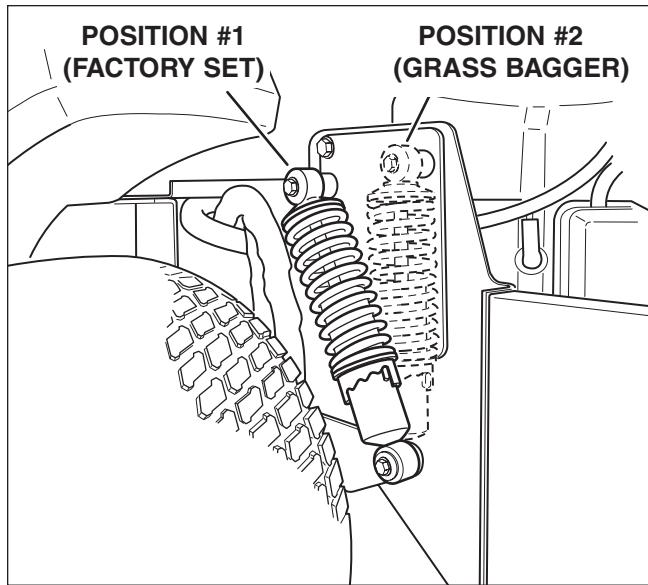

Figure 1. Rear Suspension Adjustments
The upper mounting position #2 (See Figure 1) should be used when a rear-mount grass bagger system is installed.
- Remove the upper shock mounting hardware and pivot the shock to the position #2 (see Figure 1). Adjust the jack to align the shock mounts to the shocks.
- See Figure 1. Using the supplied spanner wrench (p/n 5022853), insert the tip of the wrench into the notch in the pre-load adjuster. While holding the wrench in place with one hand, turn COUNTER-CLOCKWISE to increase the pre-load, turn CLOCKWISE to decrease the pre-load. Make sure both shocks are set to the same amount of pre-load.